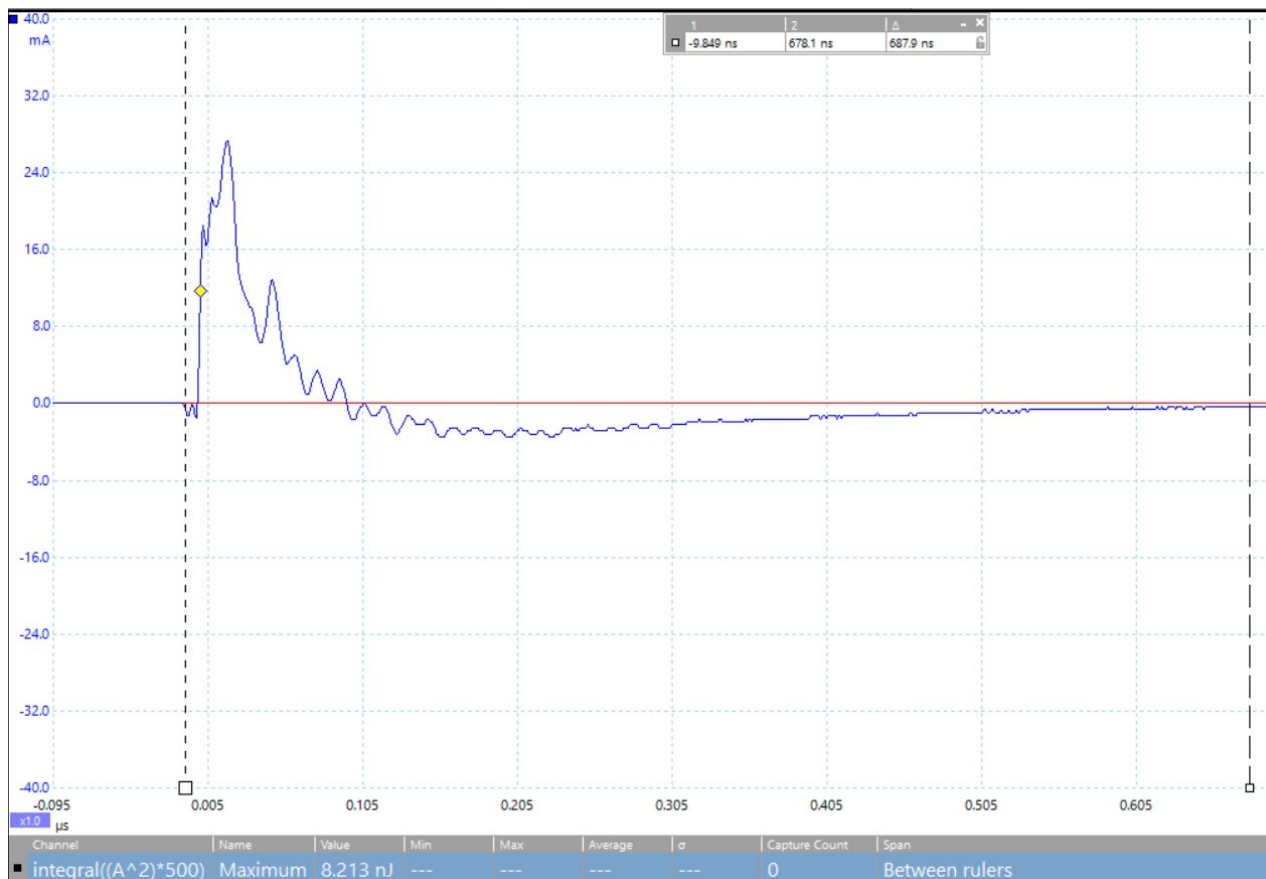

Figure 16. Screenshot of the PicoScope® 6 Software measuring the energy.
11. Using the mouse, drag the left scope cursor to the left of the discharge waveform and the right cursor to the point where the waveform decays to zero. Note: If the waveform dips below the zero line place the cursor at the point where it crosses the zero line for the second time (Figures 16 and 17).